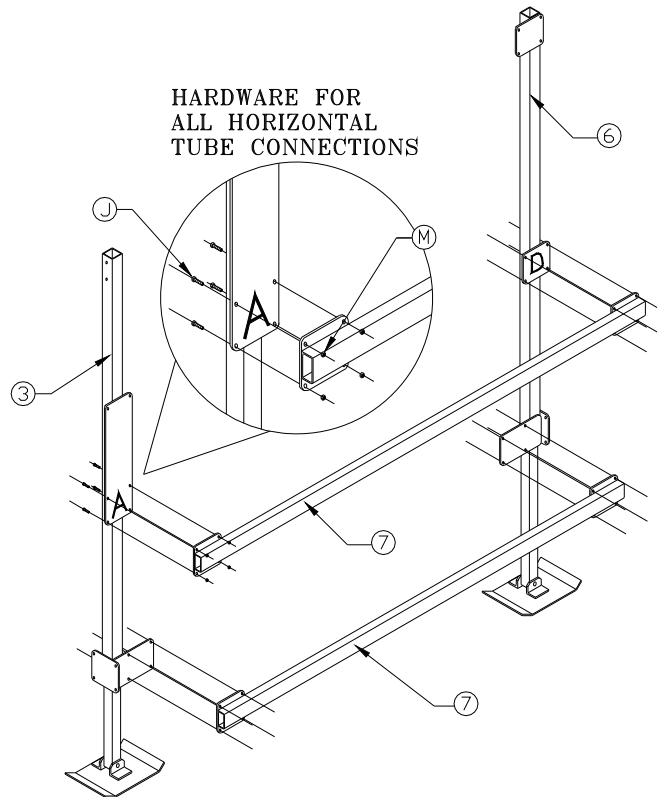

Figure 3-4.
1. Refer to Figure 3-4. Fasten a pair of short horizontal tubes between vertical legs A and D with hardware shown. DO NOT TIGHTEN.
5. Fasten a long horizontal tube across each end to connect the two sides using hardware shown in Figure 3-4. **DO NOT TIGHTEN.**